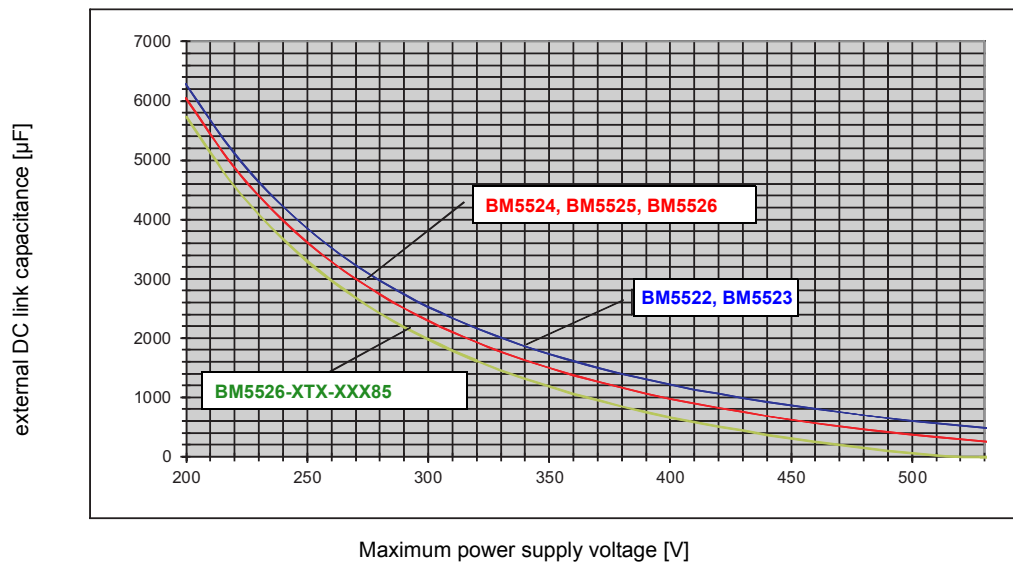

Figure 36: Maximum external DC link capacitance BM552X universal units
DC link capacitance (external), permitted	Refer to ▶Figure 36◀ on page 66
DC link capacitance (external), permitted	Refer to ►Figure 36◄ on page 66
- 9) The specified value is only valid if there is no additional DC link capacitance connected to the DC link terminals. Refer to ► Power on switching frequency / DC link charging ◄ on page 219 and ► Figure 36 ◄ on page 66.